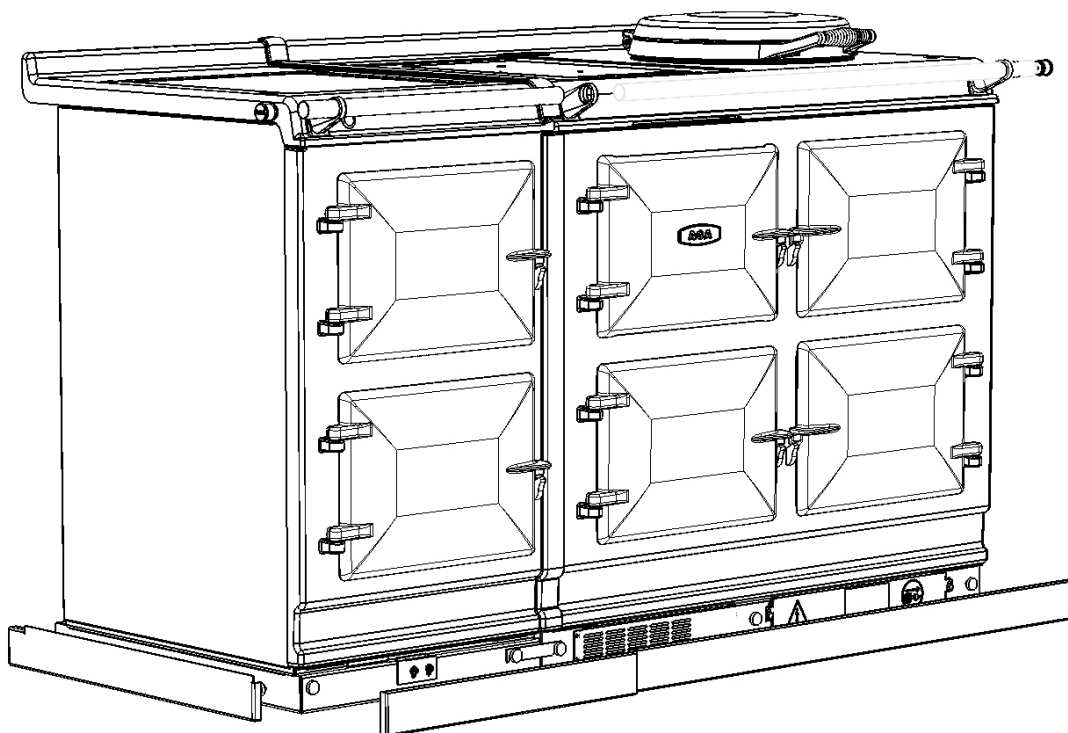

Fig. 5.12
11. On 5 oven appliances, fit 'allthread' stud into the threaded end of the handrail, then feed the handrail through the bracket (ensuring that the allthread stud is protruding from the right hand side of the hotcupboard handrail) and screw the handrails together. (Fig. 5.12).
14. Finally, fit the plinth fascia to the magnets on the front of the plinth, making sure that on 5 oven appliances the right hand side of the module plinth fascia sits against the left hand side of the AGA Signature (eR7i) plinth fascia leaving no gap between. Make sure that the plinth fascias are centrally located and do not overhang either appliance. (**Fig. 5.12**)